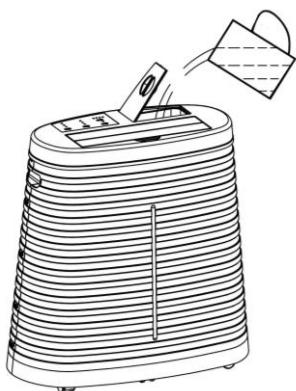

Figure.1
1. Lift up the water inlet cover. Fill the water into the tank through the water inlet tube (Figure.1). Once the water reaches the max level, there will be a 10sec audible alarm and the green light will illuminate. When you fill the water with the unit unplugged from the electric socket, please check the "MAX" water level indicator through the overflow connector cap located at the tank. You can also fill water directly into the tank by removing the tank as follows: